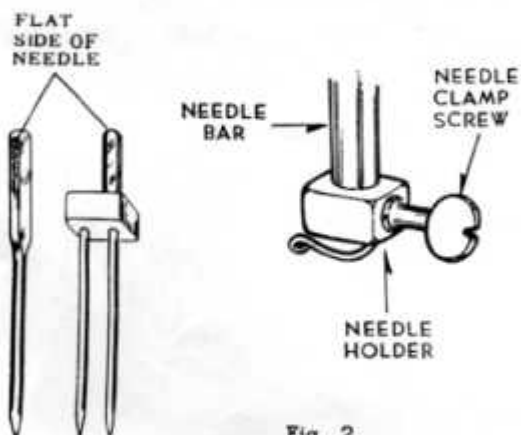

Fig. 2
2. Place a spool of thread on the spool pin (Fig. 2). Draw the thread from the spool through the upper arm thread guides downward across the machine from left to right.
(See Fig. 2 for inserting needles)